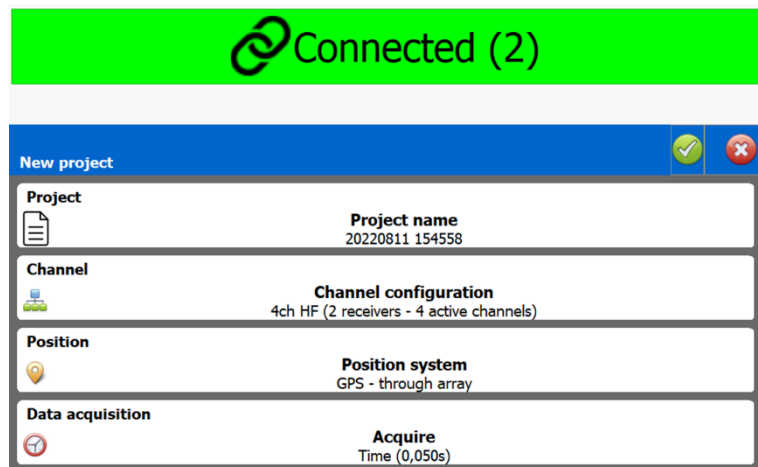

Figure 6, - New project dialogue
6. Click the New button to create a new project or open an existing project. The project settings are shown, see Figure 6, below, and if you wish to change anything tap the corresponding setting. Confirm settings by tapping the  symbol.